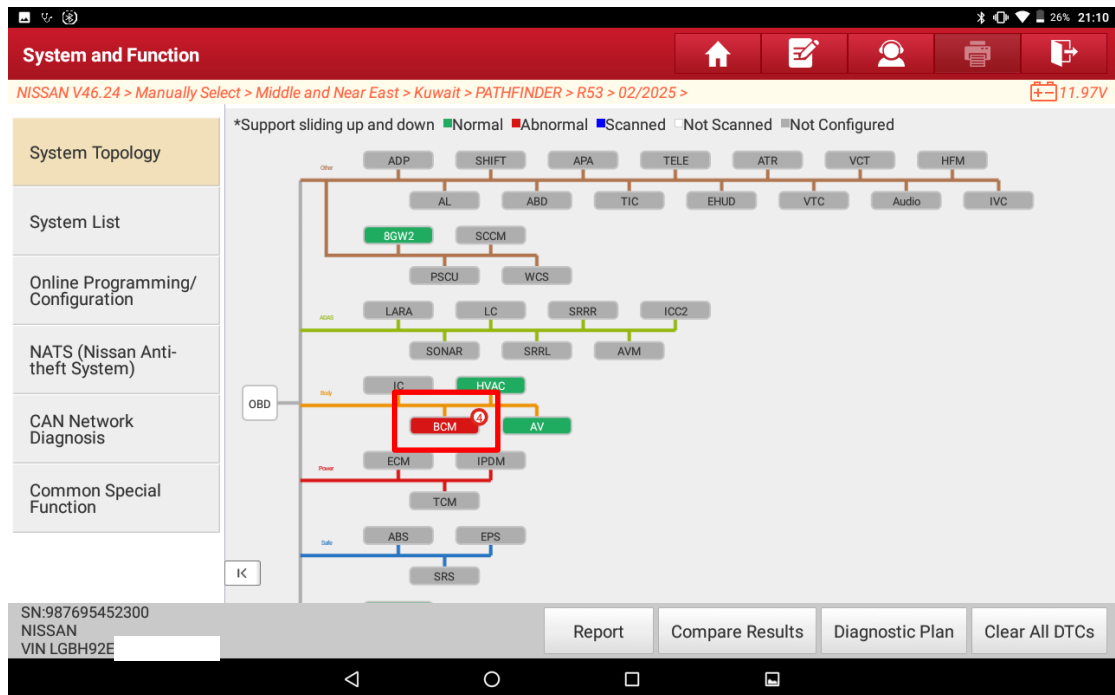
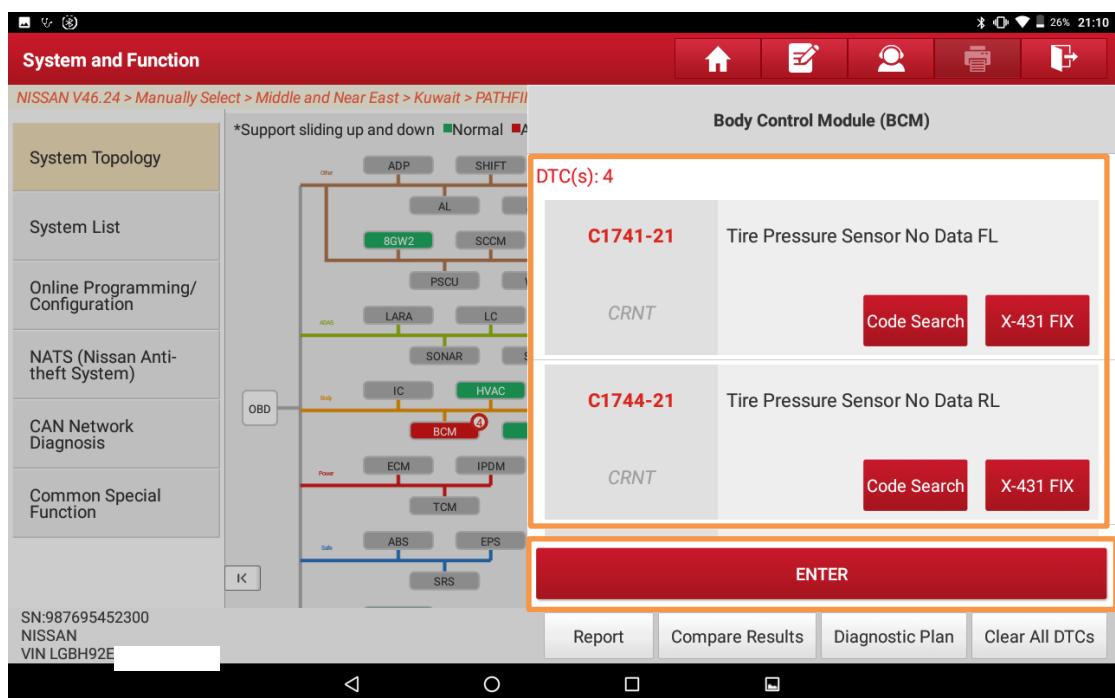
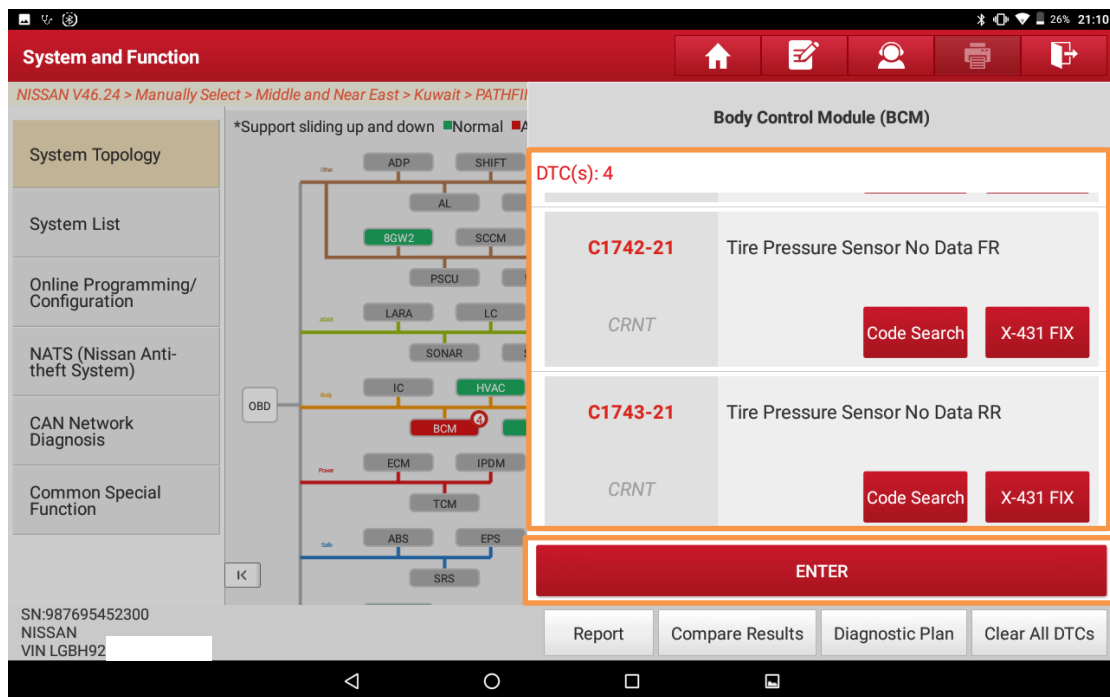

Figure 7
Figure 8
Figure 9
4. After the detection is completed, click [BCM] on the system topology (Figure 7) to display BCM DTC information (Figure 8 and Figure 9). If the diagnostic tool retrieves fault codes related to tire pressure sensors (as shown in Figures 8 and 9), first rule out peripheral issues such as sensor hardware, power supply, communication, and related wiring faults. If the relevant fault codes persist after ruling out these issues, the cause may be an incorrectly registered tire pressure sensor ID or abnormal registration data. In this case, perform the ID registration function to re-register the tire pressure sensor IDs. Click "ENTER" to enter the BCM (Body Control Module) menu interface.